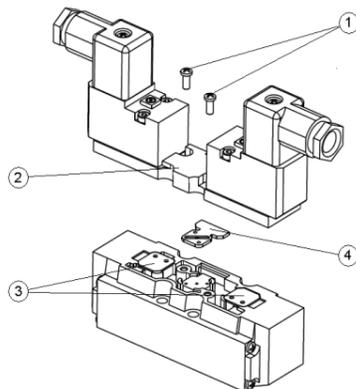

Figure 17
4.2 Pilot switch – Function Plate (see Figure 17)